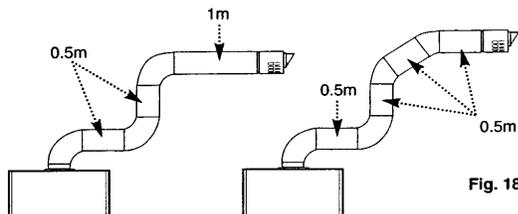

Fig. 18a
**The maximum permissible equivalent flue length is : 4metres (Fig. 18a).**